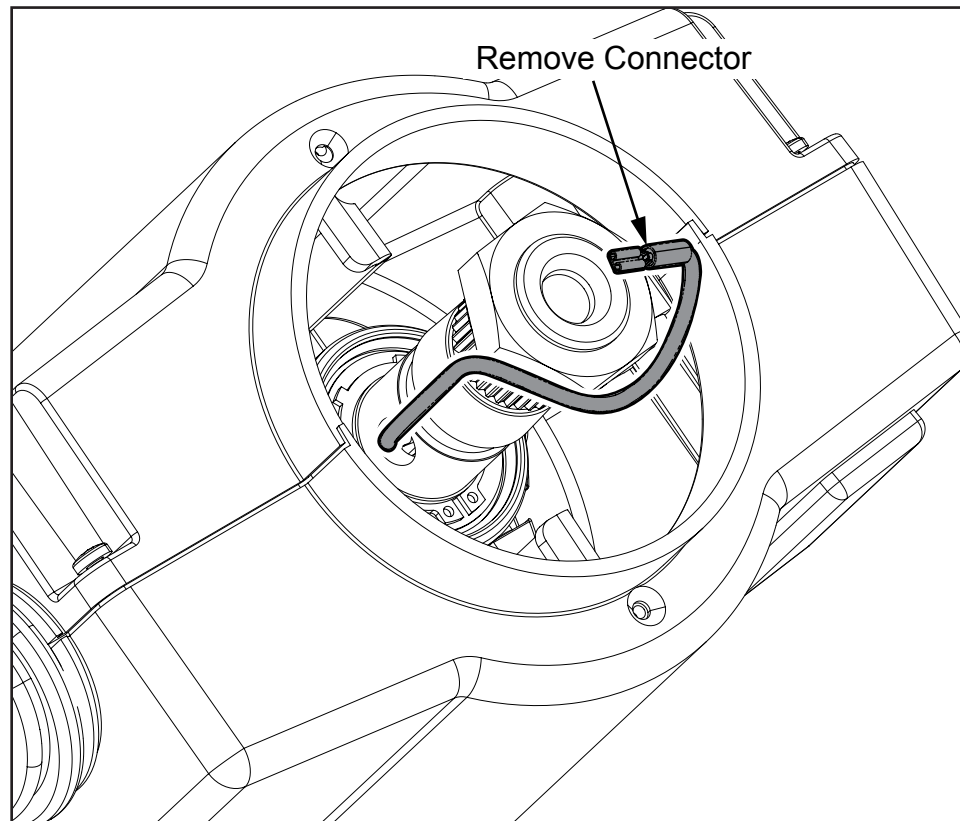

Figure 3
4. Locate the end of the horn wire, cut off the connector and discard (see *Figure 3*).